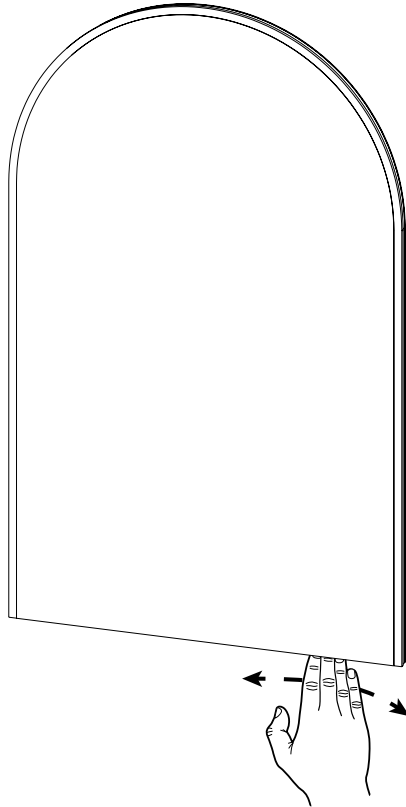

Fig 4. - Operation
1. Wave hand past the sensor switch located under the bottom right of the mirror, *see Fig. 4.*